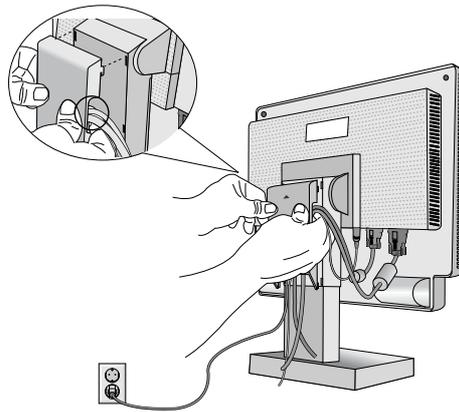
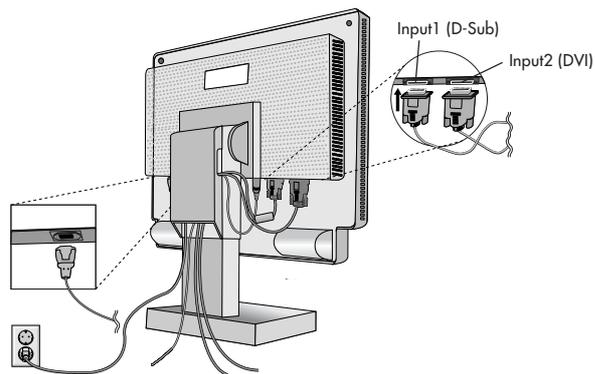

Figure D.2
Figure D.3
6. Connect one end of the power cord to the monitor and the other end to the power outlet. Collect cables and keep them at backside of the stand (**Figure D.2**). And cover the cables by the optional Cable management Cover (**Figure D.3**).